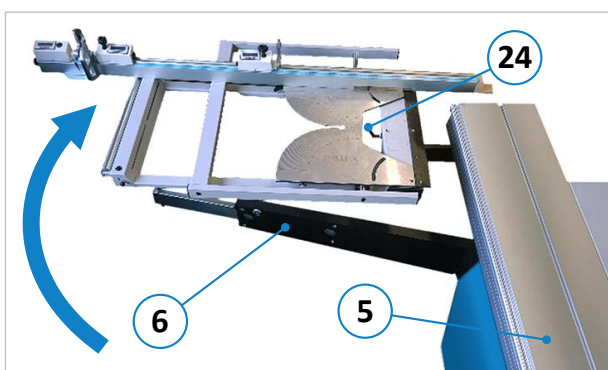
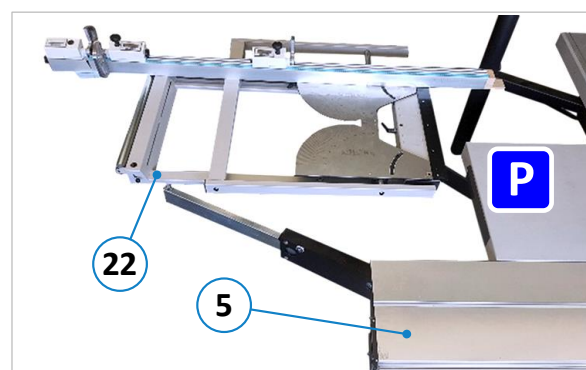

Figure 93: Swivel away cross slide
Figure 94: Final parking position
- Turn the cross slide (22) by 90° to the right. Then swivel it backward to bring it into its final parking position behind the slide table (see ⇒ Figure 93 and ⇒ Figure 94).